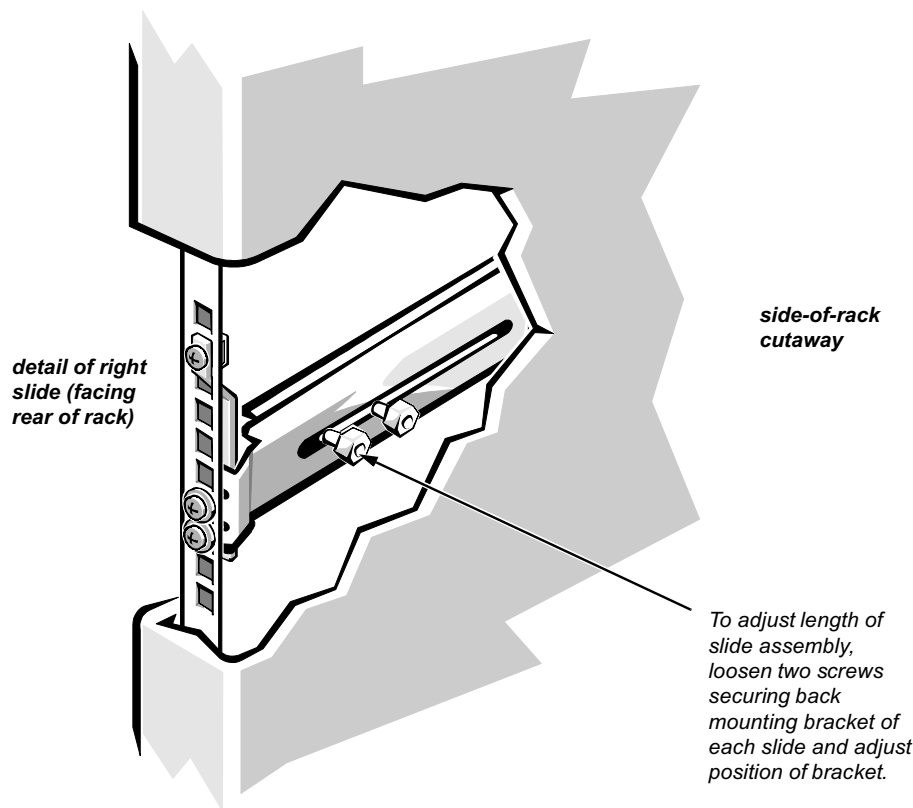

Figure 8. Adjusting the Length of the Slide Assemblies
- d. If necessary, adjust the slide assembly's length until the mounting-bracket flanges fit snugly against the back of the rails on both ends as shown in Figure 8. (Dell racks require no adjustment to the slide assemblies; the mounting brackets are preconfigured to the correct length).
- e. Pull the interior slide out until you have access to the two back mounting-bracket screws and nuts (see Figure 8). Tighten the two mounting-bracket screws.